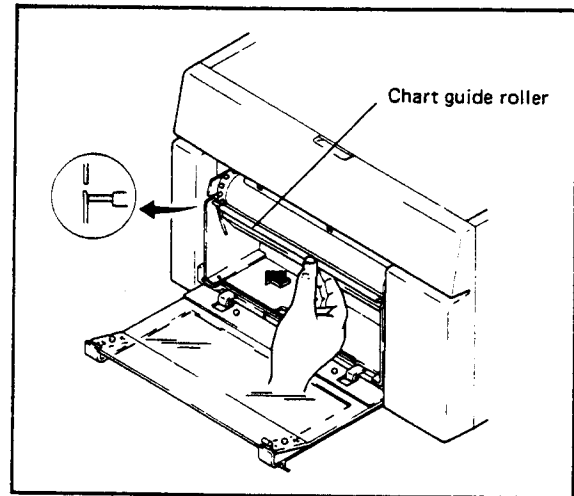

Figure 7-1.
- (1) Fan chart thoroughly at both ends before loading.
- (2) Turn the POWER switch OFF and open the door.
- (3) Remove the chart guide roller shaft while pushing it to the left (see Figure 7-1).